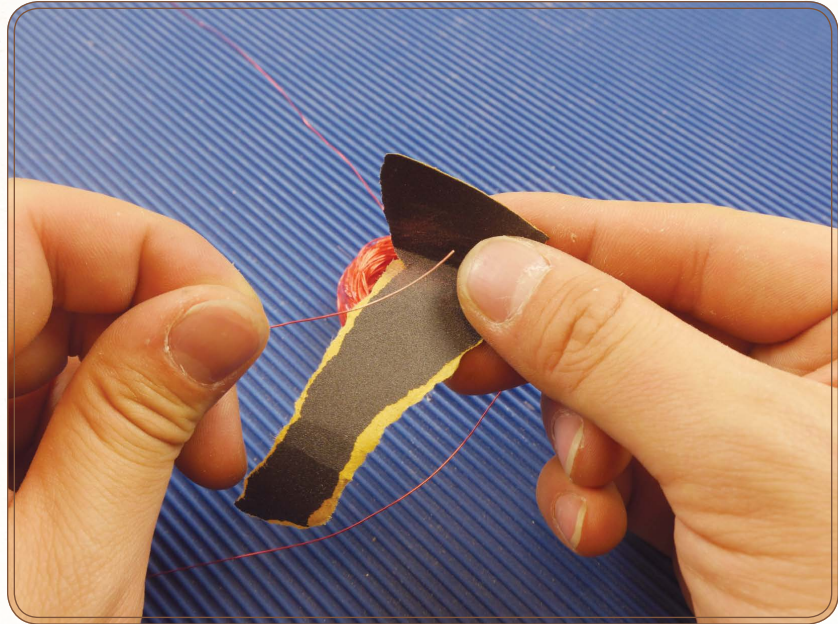

Figure 8.3: Sanding off the insulating paint
4. Once the glue is dry and hard, sand off an inch of insulating paint from the wire ends, as shown in Figure 8.3.